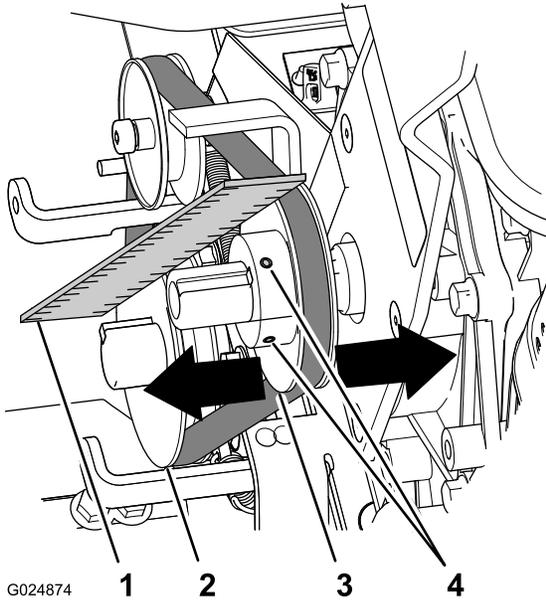

Figure 24
1. Place a straightedge ruler across the engine pulley and the gearbox pulley (Figure 24).
- A. Loosen the 2 setscrews that secure the engine pulley to the engine shaft (Figure 24).
- B. Gently tap the engine pulley toward or away from the engine until the gearbox and engine pulleys align to the straightedge ruler (Figure 24).
- C. Tighten the 2 setscrews that secure the engine pulley to the engine shaft (Figure 24).